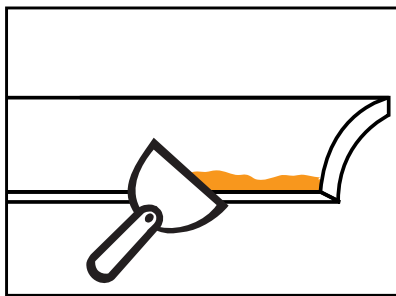

FIGURE 66 Butter Up
- > Spread a 10mm continuous bead of cement along both back edges and the mitred end of the cornice [Figure 66]